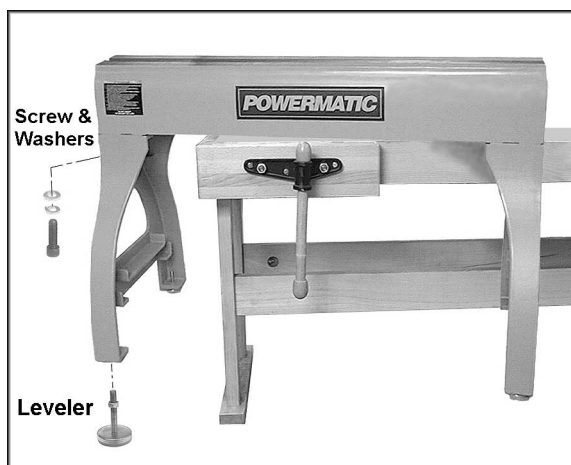

Figure 1
5. Lift the Lathe bed and set it upside down on the floor (make sure padding/cloths have been laid down to prevent scratching the bed). Or, set the Lathe bed upon a table of sufficient height to allow the legs and levelers to be assembled, as shown in Figure 1.
6. While the Lathe is off the floor, install the legs to the bed using eight socket head cap screws with eight lock washers and eight flat washers (Figure 1). Tighten the screws firmly with a 8mm hex wrench.
7. Screw the levelers into the threaded holes of the legs (Figure 1). Tighten the hex nuts against the bottom of the legs with a 14mm wrench.